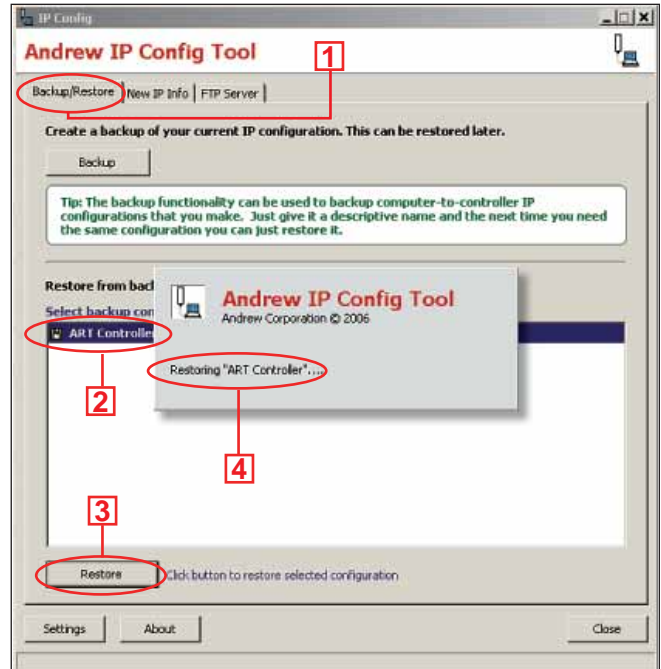

Figure 2-3. Using The IP Config Tool To Access The Controller.
- To restore temporary IP settings on the PC/ laptop that were saved in the IP Config Tool, follow these steps (Figure 2-3):